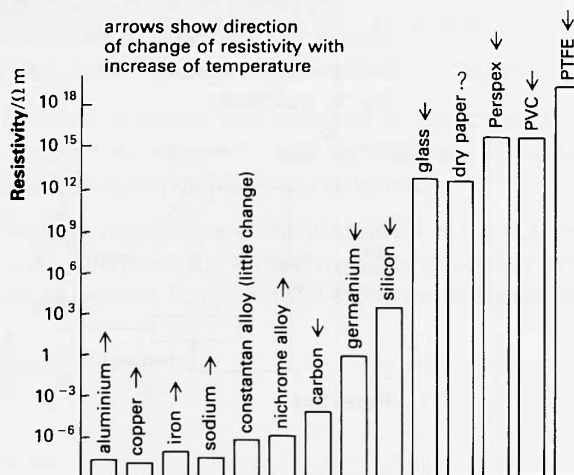

Figure B65
**13(L)** Figure B65 shows the electrical resistivity of a number of materials, and whether the resistivity rises or falls with a rise in temperature. The height of each bar represents the resistivity.